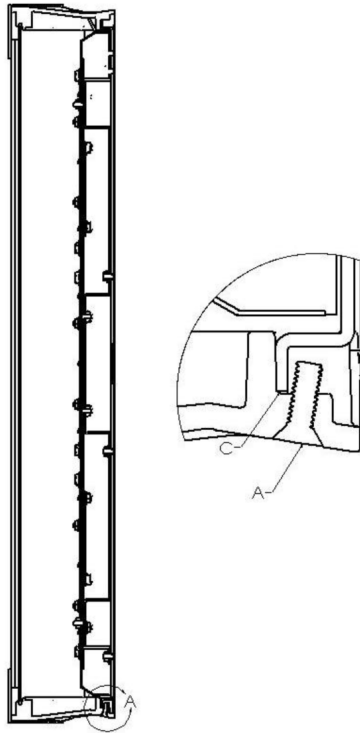

Figure 8
19. Reattach the LED tray (F) to the baseplate (C).
21. Hook the front housing (B) onto the angle bracket hook (D) shown in Figure 8.
23. Standard luminaire only: Check to make sure the housing is locked in place. This is achieved when screw (A) is behind the baseplate flange (C). NOTE: Do not push on outer lens when mounting the front housing.